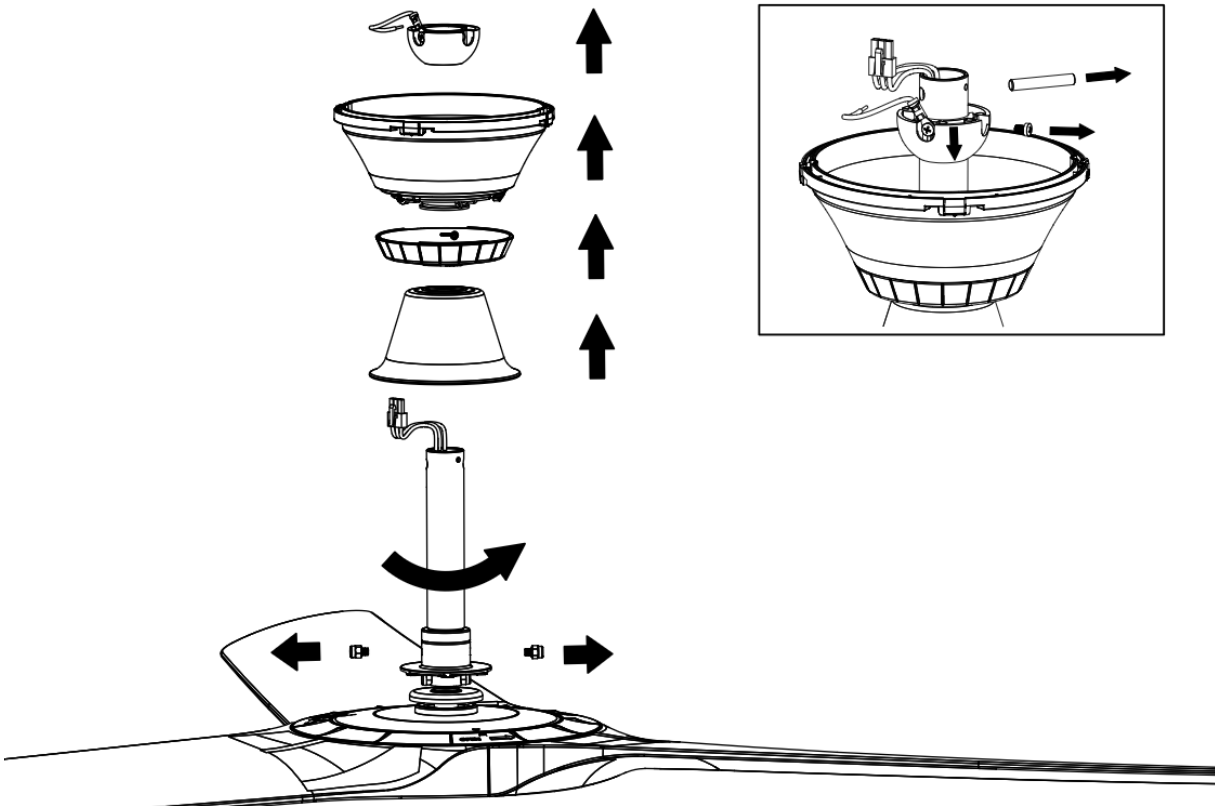

Fig. 10.1
1. Uninstall the ball joint, canopy, canopy bottom cover & the down rod joint cover from the fan assembly; (Figure 10.1)